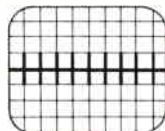

Fig. 6 Center horizontal convergence.
14. Repeat steps 8 thru 11 as necessary to obtain best "overall" convergence consistent with best "overall" purity. (see Fig. 6).